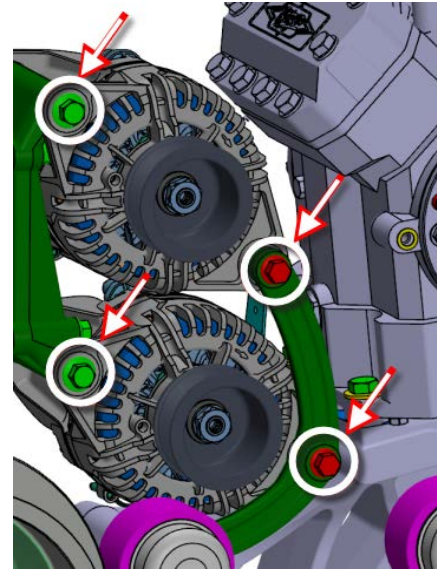

FIGURE 13
19. Remove the existing alternators. To do so, unscrew the four (4) mounting bolts identified on **FIGURE 13**.